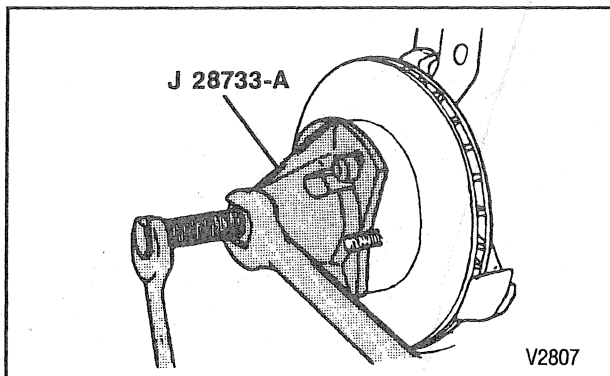

Figure 11—Splined Shank and Knuckle Separation
13. Knuckle assembly using J 28733-B (or equivalent) and separate outer C/V joint splined shank from knuckle hub (figure 11).